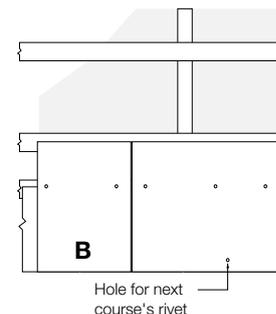

Fig. 8 2nd under eaves course
- Cut and fix the second under eaves course to the lower batten starting with a slate-and-a-half at the verge (Fig. 8). Prior to fixing the slate-and-a-half, drill a 4mm dia. hole half a slate width in from the verge and 25mm up from the bottom edge, and insert a copper disc rivet for fixing the verge slate of the first full slate course.